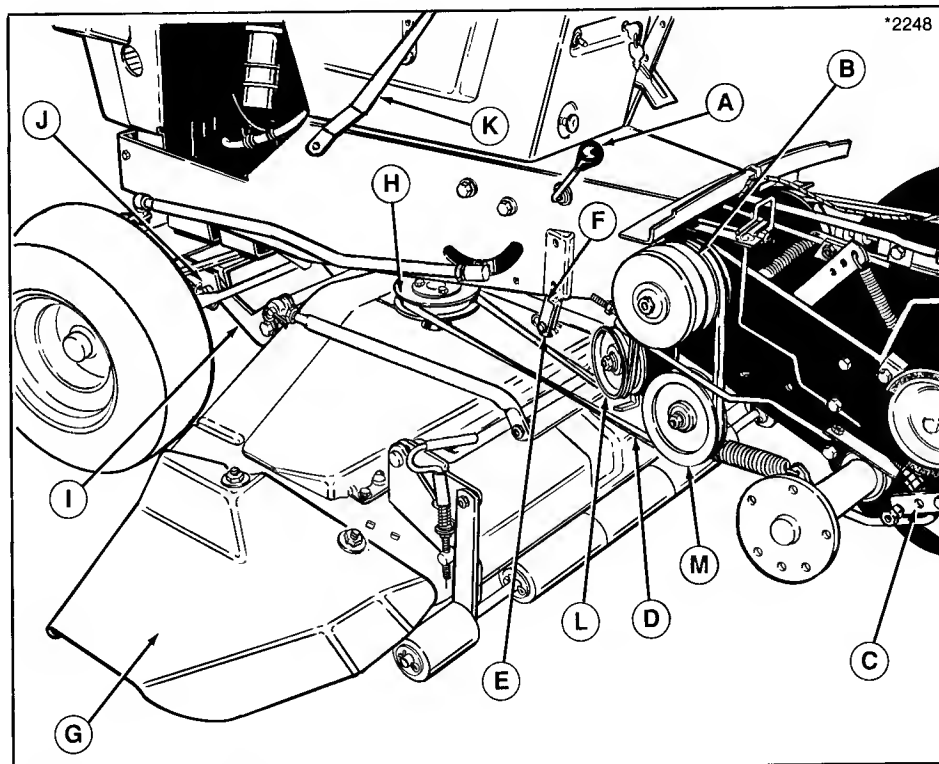

Figure 14. Mower Installation
2. Make sure the front idler pulley (L, figure 14) is installed in top mounting tab for mower installation. Bottom mounting tab is used for snowthrower operation.
6. Lift the front of the mower and attach the mower hitch arms (I) to the tractor hitch (J) using two pins and safety clips. Install the pins from the outside. It is easier to install the left-hand pin first.
8. Push the belt tensioning lever (C, figure 14) fully down and forward.
10. Install the mower drive belt provided on the mower pulley and the tractor pulleys. The belt must be seated in the inner groove of the drive pulley (B). Make sure that flat side of the belt contacts the front idler pulley (L).
11. Pull the belt tensioning lever (C, figure 14) fully back and up to put tension on the mower drive belt.
2. Push the belt tensioning lever (C, figure 14) fully down and forward to release mower belt tension.
3. Raise the tractor seat deck and remove the mower drive belt from the mower and tractor pulleys (see figure 14). Close the tractor seat deck.